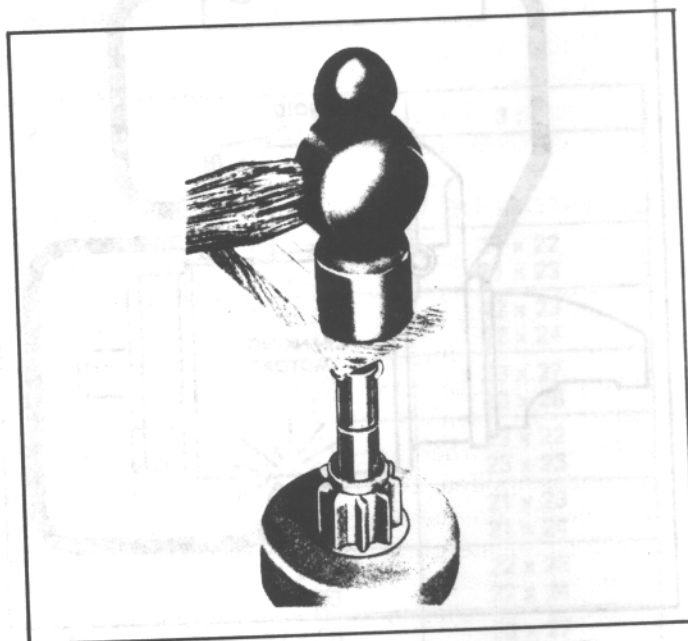

Fig. 141. Forcing Snap Ring Over Shaft.
- (b) Place the snap ring on the end of the shaft. With a peice of wood on top of it, force the ring over the shaft with a light hammer blow (Fig. 141), then slide the ring down into the groove.